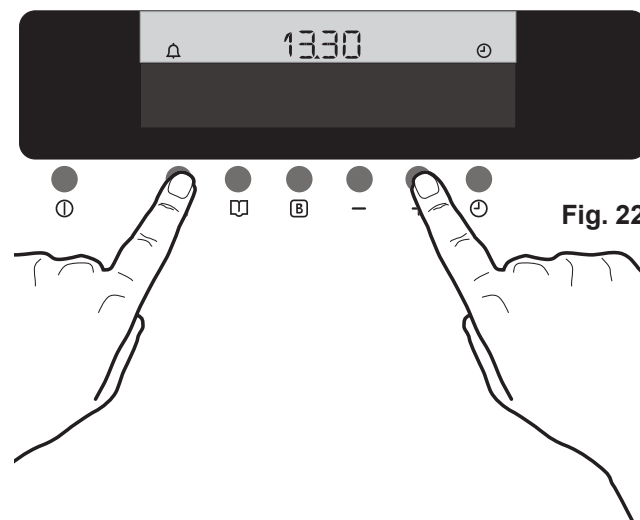

Fig. 22
1. Press buttons **□** and "+" at the same time for about 3 seconds. The Electronic Control beeps once (Fig. 22).